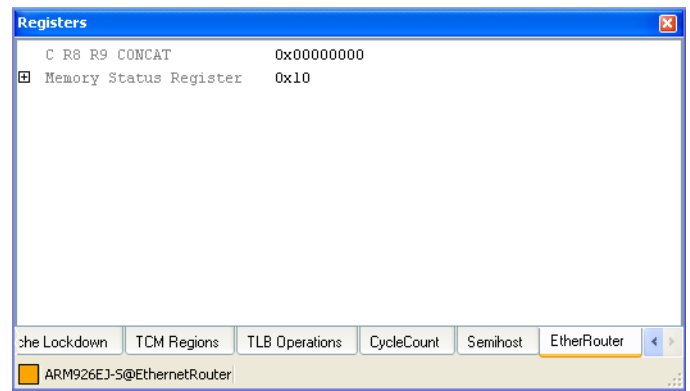

Figure 5-25 Concatenated register in EtherRouter tab
4. Click the **EtherRouter** tab to display the registers for the Ethernet router. Figure 5-25 on page 5-35 shows an example: